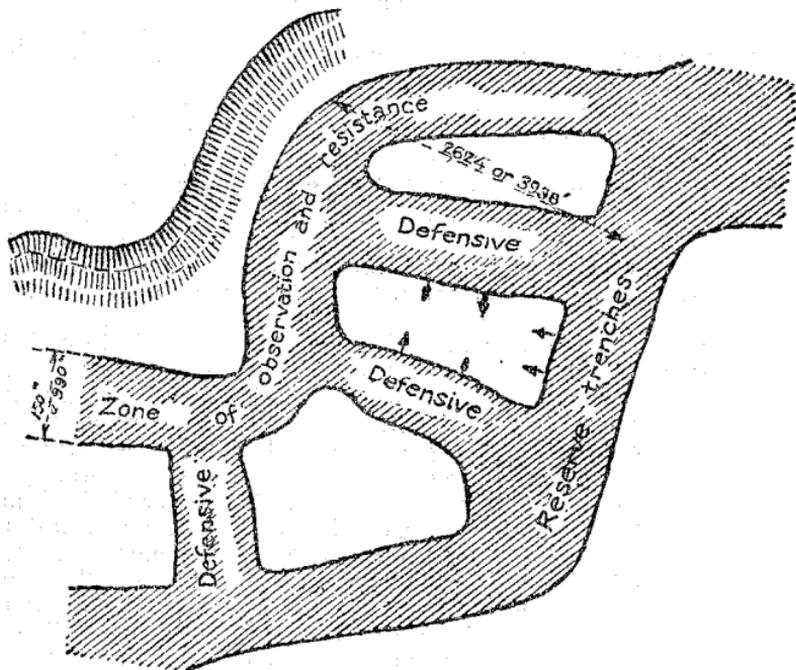

Fig. 165.
*The dividing up and assigning of the terrain.*—One must not get the idea that a position is simply a line of supporting points, with narrow intervals, placed side by side, thus forming an uninterrupted line of defense. Just as the lines of successive trenches (first line, supports, reserves, intermediate trenches) divide up the ground in a frontal sense, the supporting points are often made up of groups of active elements, little works, isles of resistance, etc., which form zones perpendicular to the front, separated by other zones less well defended. The former zones, strongly defended, divide up the terrain. Their location is generally fixed by the inequalities of the ground and the existence of natural strong points (ridges, crests, woods, villages, etc.) Figure 165 is an example of dividing up the ground which gives the main features of one of the sectors of a position.